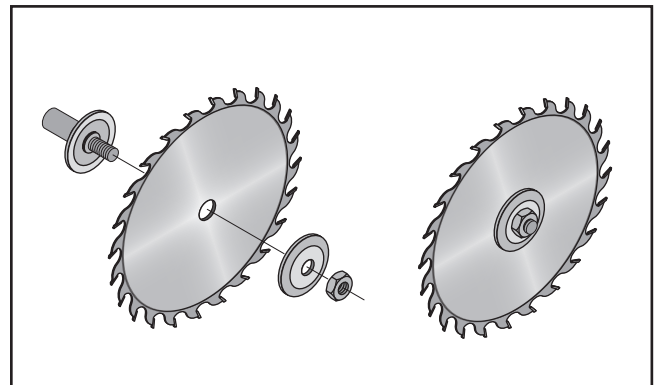

Figure 61. Example of correct blade direction and blade components installation order.
4. Slide the blade over the arbor with the teeth facing the front of the saw, as shown in **Figure 61**.